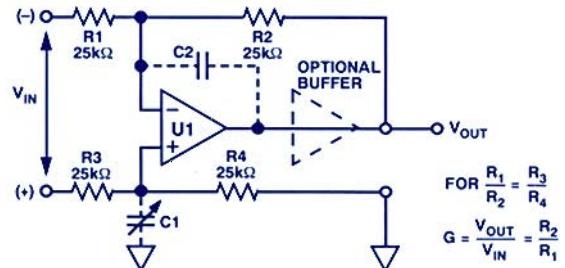

Figure 2. Simple line-receiver topology.
A major purpose of this circuit and all line receivers is to reject common-mode noise, as might be picked up on a twisted-pair transmission line. A brief review of the topologies and pros and cons of active audio line receivers helps in understanding their evolution. The classic single-op-amp, 4-resistor subtractor circuit of Figure 2 can act as a differential amplifier. When the resistor ratios provide gain, the circuit is known as an instrumentation amplifier (IA). Some of today's IC audio line receivers, based on feedback circuitry, are direct descendants of this circuit. [5]-[9]
The circuit of Figure 2 is simple; the minimum ingredients are four matched film resistors and a good audio op amp. While it works functionally, its degree of common-mode rejection (CMR) may be problematical. The performance of such bridge-based difference amplifiers depends critically upon resistor-ratio matching—including source impedances in series with R_1 and R_3 . The amplifier also contributes error, but with a high-quality op amp, noise rejection is limited by ac & dc bridge unbalance.
The Figure 2 topology is most effective when the resistors and amplifier are made simultaneously in a single monolithic IC. The Analog Devices 8-pin SSM-2141 and SSM-2143† are such ICs, designed and characterized as low distortion, high CMR audio line receivers with net gains of 1.0 (SSM-2141), and 0.5 (SSM-2143). The SSM-2141 has the same resistance values as in Figure 2, while the SSM-2143 uses 12-kΩ/6-kΩ resistors.
Figure 2's working CM input range is $[1+(R_3/R_4)] \times V_{CM(U1)}$, and the differential input resistance is $R_1 + R_3$. Gain of the circuit isn't easily changed, because of the matched R-ratios.